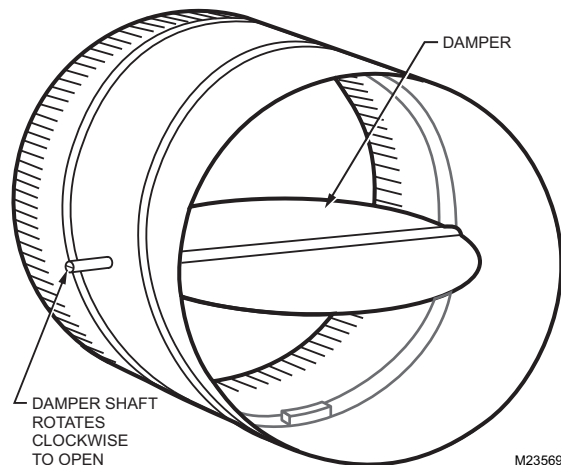
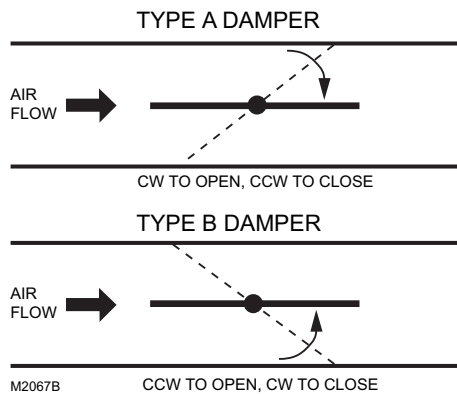

Fig. 2. Damper with 90 degree CW rotation to open.
Fig. 3. Determining the rotation direction (CW or CCW) for damper opening.
Determine the damper rotation and opening angle prior to installation. See Fig. 2 and 3 for examples.
3. Determine the direction the damper shaft rotates to open the damper (CW or CCW) (see Fig. 3). Typically, there is an etched line on the end of the damper shaft that indicates the position of the damper. In Fig. 2, the indicator shows the damper open in a CW direction.
4. Determine the damper's full opening angle (45, 60, or 90 degrees). In Fig. 2, the damper is open to its full open position of 90 degrees.